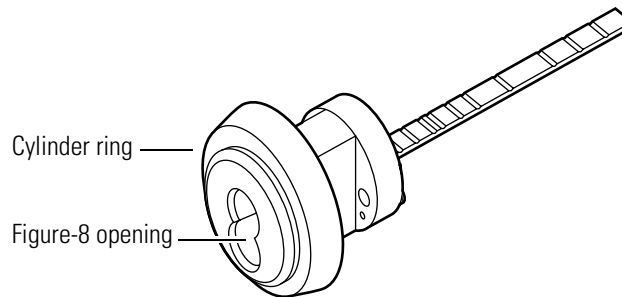

Figure 5.12 Figure-8 opening
1. Make sure that the cylinder ring, if present, is positioned on the cylinder, as shown in Figure 5.12.